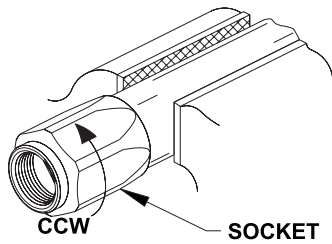

FIG. 1
Step 3: Lubricate the interior surface of the Socket. Place the Hose in a Bench Vise (See Fig. 1). Place the Socket over the Hose and turn counterclockwise (CCW) until Hose is within 1/8" of the inside Socket shoulder.